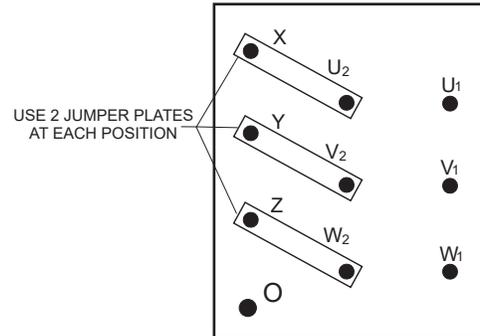

Figure 21. Voltage Change-Over Board 3-Phase 480/277-Volt Configuration
1. Jumper the **voltage change-over board** for **480-volt operation** as shown in Figure 21. This configuration uses 6 jumper plates in 3 different positions. Remember there are 2 jumper plates at every position. Every jumper plate **must be used**.
1. Make sure the **voltage change-over board** is jumpered for **480-volt operation** as shown in Figure 21.